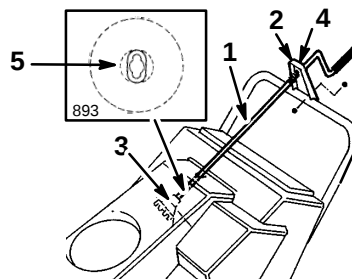

Figure 6
1. Insert the flattened end of the chute crank through the hole in the shroud while aligning the mounting bracket with the holes in the lower handle (Fig. 6).
2. Slowly rotate the crank until the flattened end fits into the hidden gear opening and the chute ring turns with the crank (Fig. 6).
3. Fully insert the plastic bushing into the hole in the mounting bracket (Fig. 6).
4. Secure the mounting bracket to the handle with two capscrews and locknuts (Fig. 6).